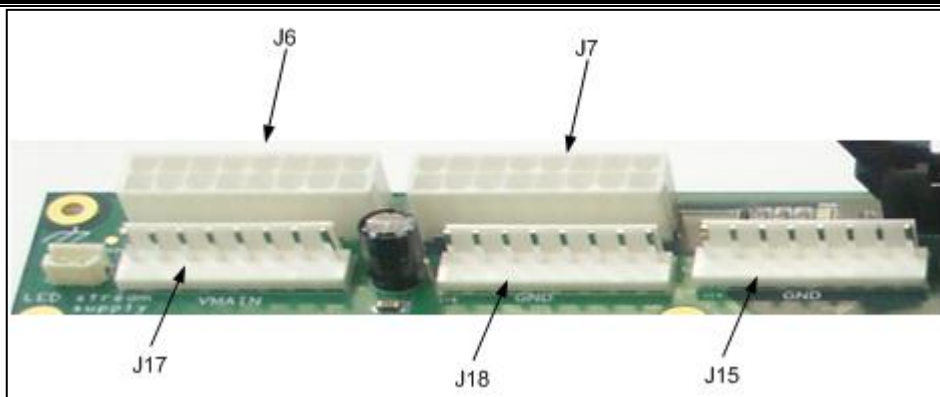

Figure 12: Vin Connectors
3. Vin Connectors (see Figure 12)